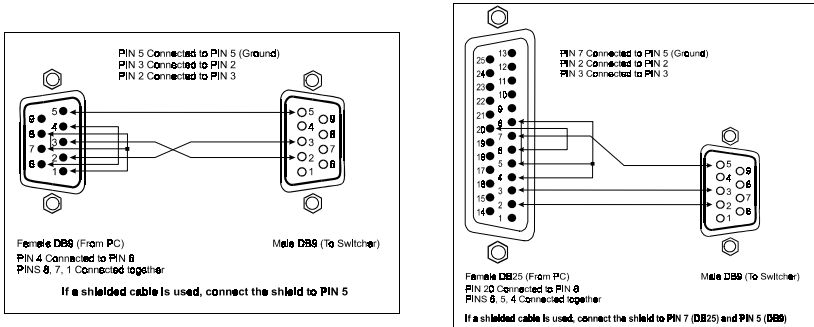

Figure 3: Connecting a PC without using a Null modem Adapter
- Connect the RS-232 DB9 port on your PC to the “RS-232” DB9 rear panel port on the **VP-2x2** unit, as Figure 3 illustrates (depending on whether the PC has a 9-pin or 25-pin connector)